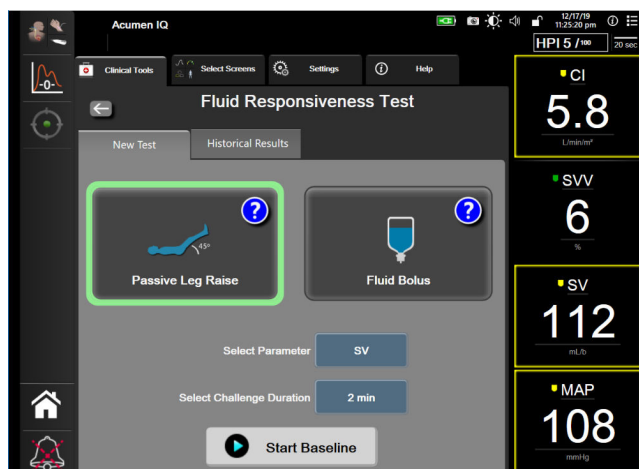

Figure 14-13: Fluid Responsiveness Test – New Test Screen
- On the **New Test** tab (see Figure 14-13 on page 277), touch the desired test type: **Passive Leg Raise** or **Fluid Bolus**.